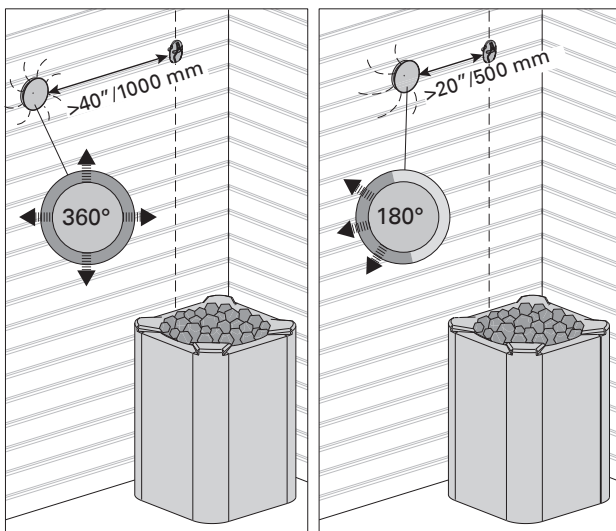

Figure 4. Sensor's minimum distance from an air vent
**⚠ Do not place the supply air vent so that the air flow cools the temperature sensor. Figure 4.**